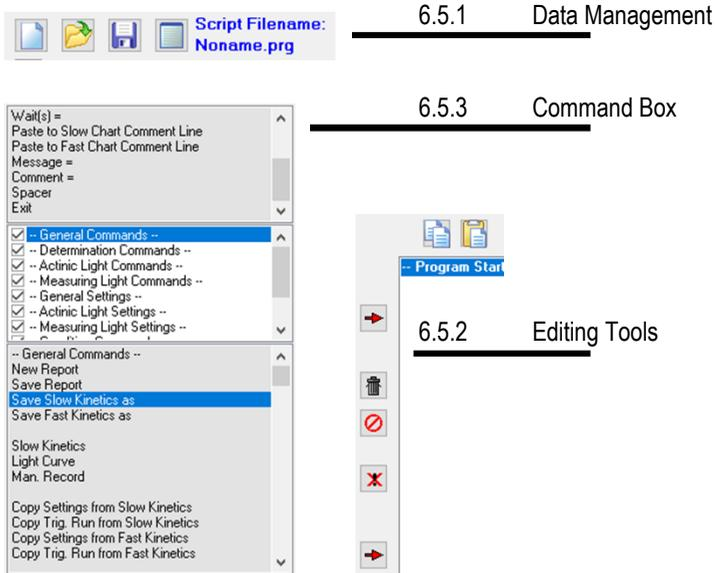

Fig. 70: Script File Window
Script Files are created in the Script File window. Fig. 70 outlines the functional groups of the Script File window.
- Select the command to be inserted by mouse cursor in the command box (left text window of Fig. 70)
- Select by mouse cursor in the script file window (right text window of Fig. 70) the line below which the command shall be inserted
The command box of the script file window (Fig. 70, page 145) consists of 3 sections. The upper section contains commands controlling the progress of script files and editing tools. The middle panel contains the title of the 11 groups of commands which are listed in the bottom panel. Unchecking titles in the middle panels hides the corresponding group of commands in the bottom panel.